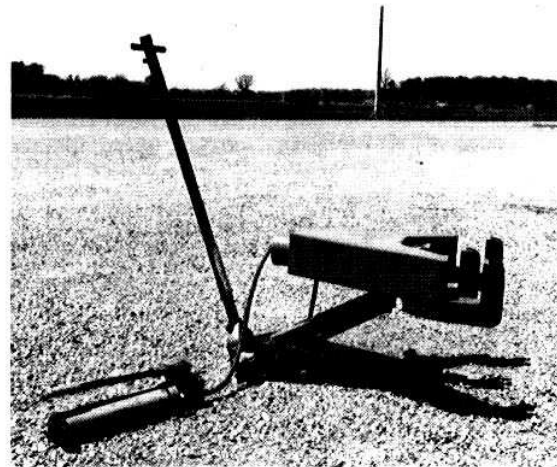

Fig. 21
9. Toe in is determined by comparing the distance the forward portion of the tire side wall is away from the gauge cable with the comparable distance for the rear portion of the sidewall. If a chalk mark occurred in step 2, it should be at the top or bottom before toe in checking. (See Fig. 19). If the two areas measured are equal, you have "0" toe in. The acceptable tolerances are shown on page 1-16. If correction is necessary, bend axle tube with a hydraulic bender (See Fig. 21). The proper use of the bender is described on page 1-16.
1. Attach straightener to any standard floor jack. (See Fig. 21)